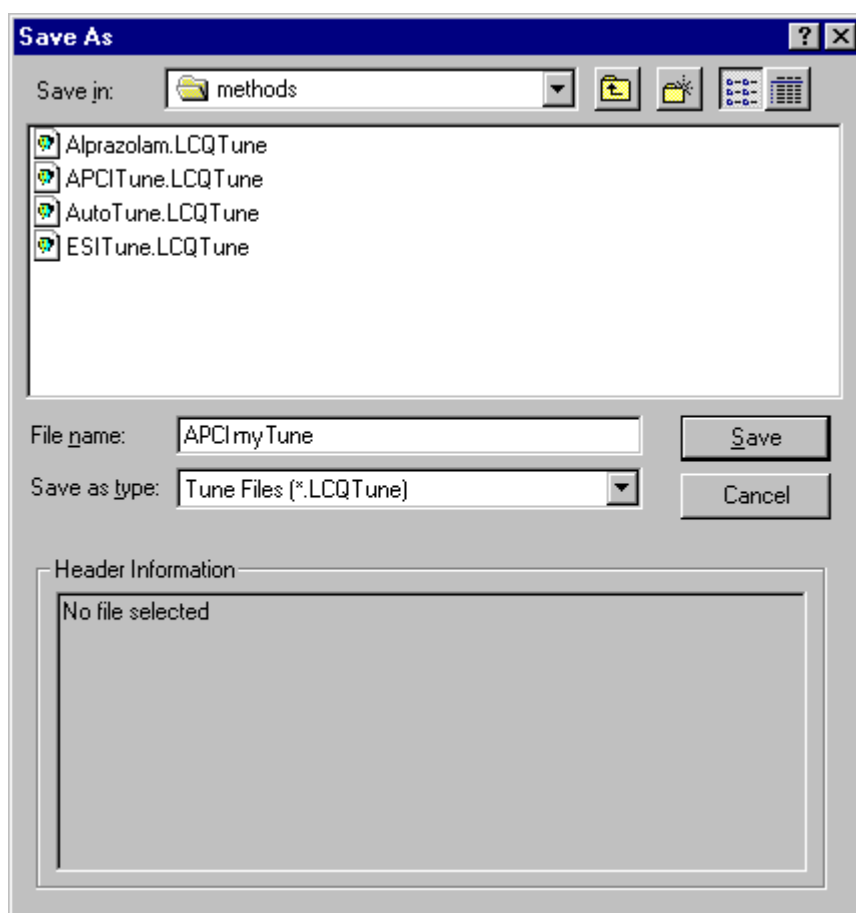

Figure 26. Save As dialog box, showing files in the folder *C:\Xcalibur\methods*
1. Choose **File > Save As** to display the Save As dialog box. See Figure 26.